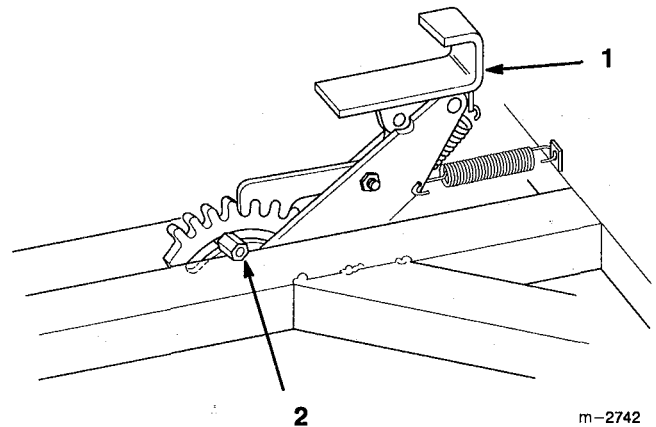

Figure 9
2. Loosen down stop on attachment lift (Fig. 9).
3. Set attachment lift to the correct position for selected cut height (Fig. 9).
4. Slide down stop against attachment lift and tighten bolt (Fig. 9).